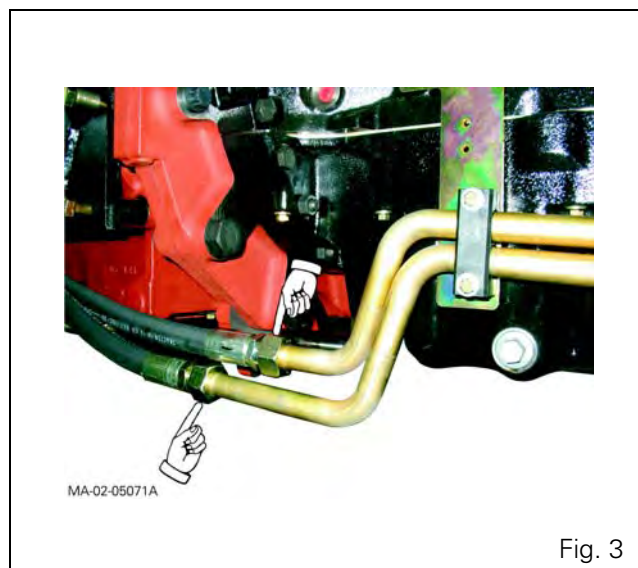

Fig. 3
- the lubrication hoses running to and from the cooler (105 hp Perkins engine, Fig. 3).